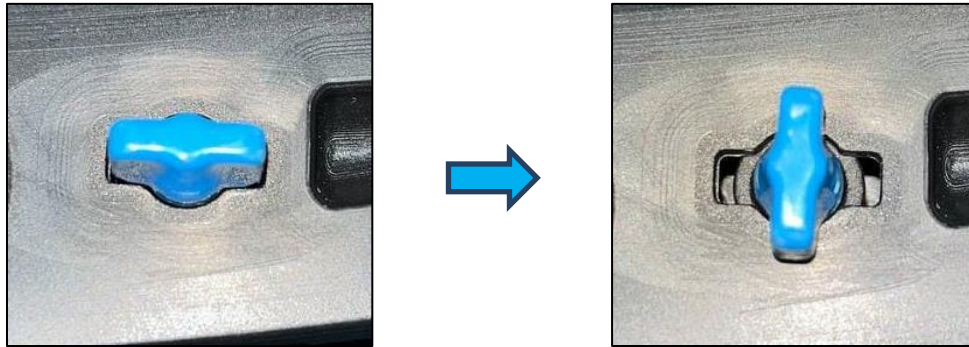

Fig. 9
6. Turn all four fasteners 90 degrees to lock it in place. (Fig. 9)